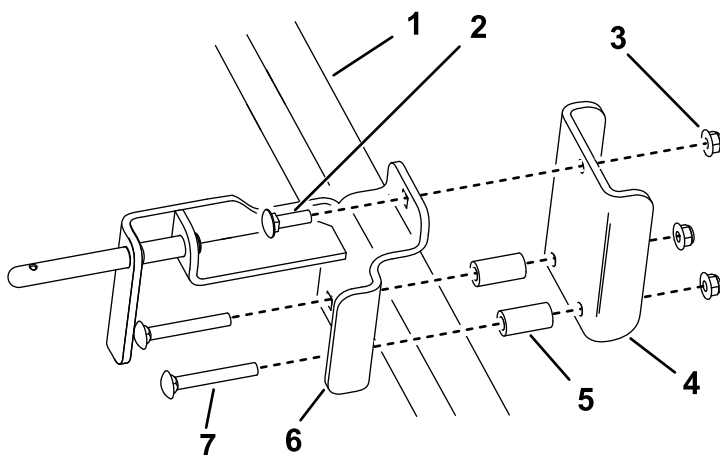

Figure 4
4. Loosely install the front bracket and back plate to the right tube frame, approximately 44 cm (17-1/4 inches) in front of the rear bracket (Figure 3), using 1 carriage bolt (3/8 x 1-1/4 inches), 2 carriage bolts (3/8 x 2-3/4 inches), 2 spacers, and 3 nuts (3/8 inch) as shown in (Figure 4).
8. If you will be installing a bagger to the machine, remove the front and rear brackets (see Figure 2 and Figure 4). Install the bolts and nuts from the rear bracket to the secure the fan shroud to the machine.